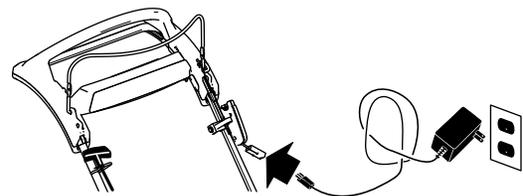

Figure 25
1. Connect the charger to the wire harness located below the electric-start button (Figure 25).